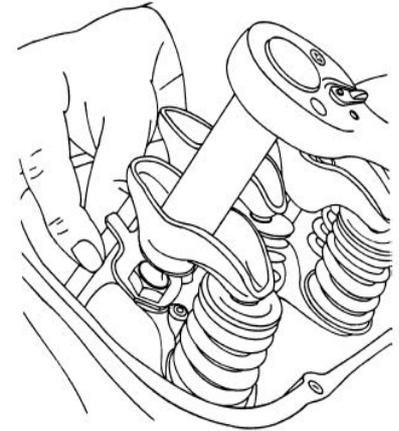

FIGURE 7
3. Loosen the adjusting nut until lash is felt at the pushrod then tighten the adjusting nut until all lash is removed. This can be determined by rotating the pushrod while turning the adjusting nut. See Figure 7. When the lash has been removed, tighten the adjusting nut an additional 1/2 turn to center the lifter plunger.